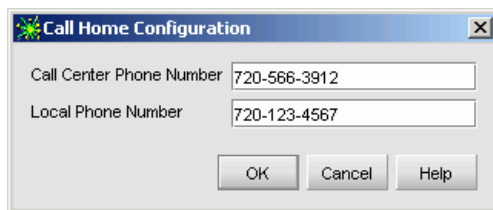

Figure 2-67 Call Home Configuration Dialog Box
2. At the Windows 2000 desktop, double-click the *CallHome Configuration* icon. The *Call Home Configuration* dialog box displays (Figure 2-67).